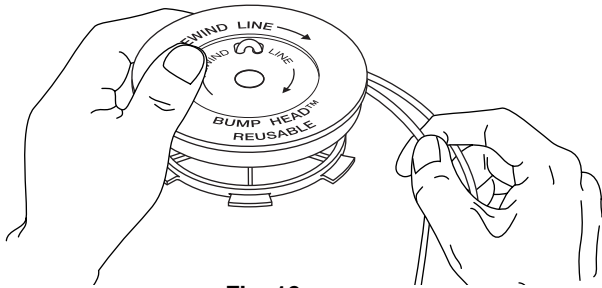

Fig. 16
7. Wind the lines in tight even layers, onto the reel (Fig. 16). Wind the line in the direction indicated on the inner reel. Place your index finger between the two lines to stop the lines from overlapping. Do not overlap the ends of the line. Proceed to step 11.